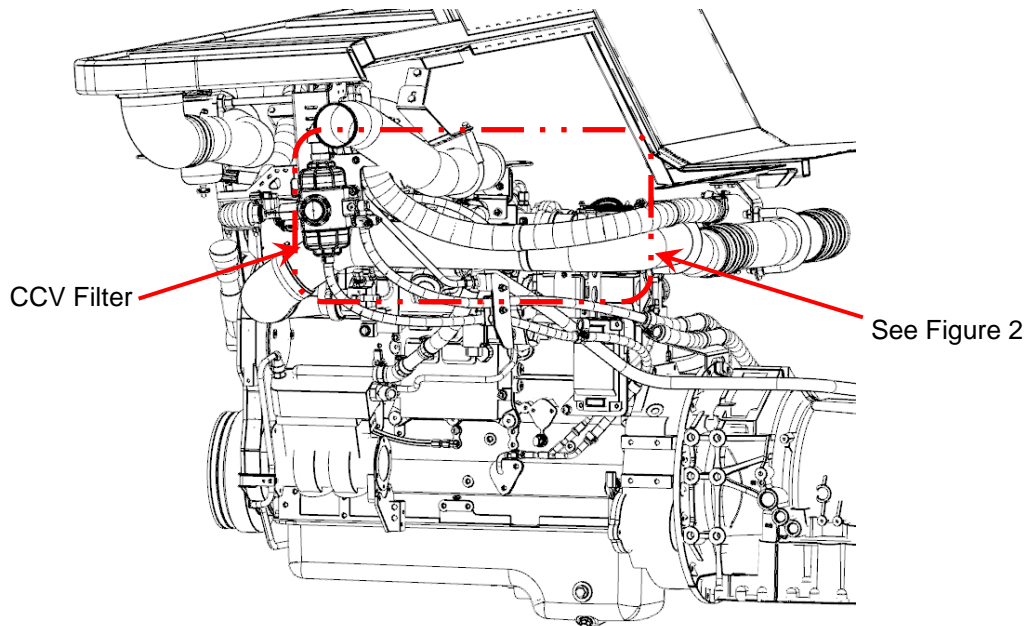
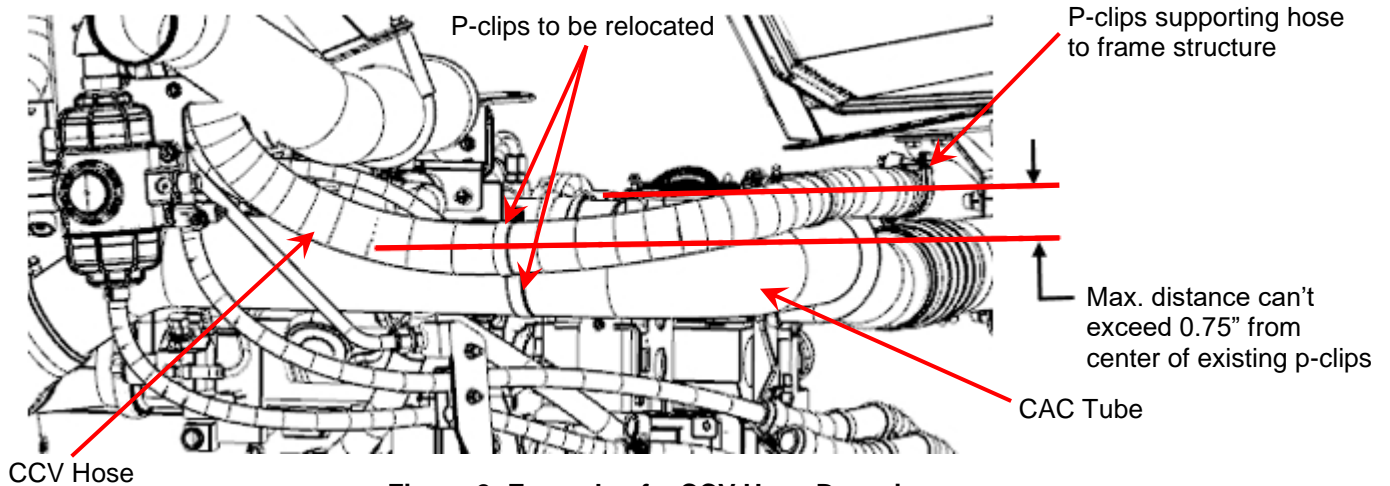
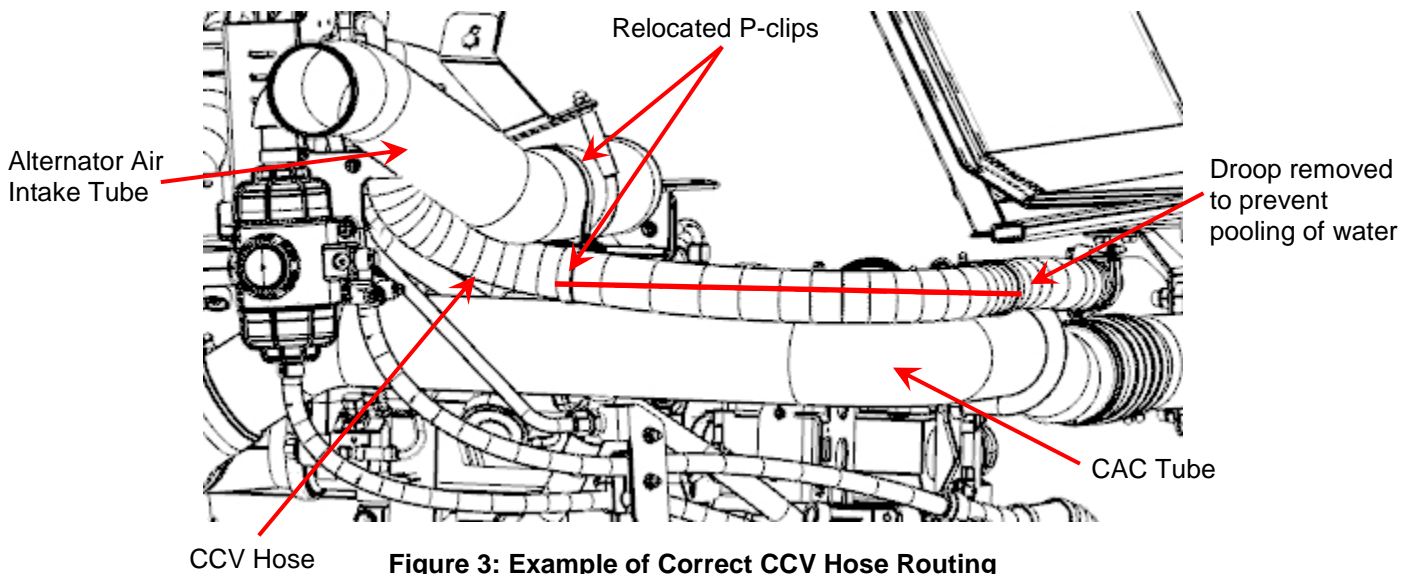

Figure 1: Crankcase Vent Filter Hose Location
Figure 2: Example of a CCV Hose Drooping
Figure 3: Example of Correct CCV Hose Routing
1. Inspect the routing of the crankcase vent (CCV) filter blow-by gas outlet hose, see Figure 1. Ensure the hose is sloping continuously up from engine to CCV filter without any sharp bends or dips and is routed in such a way that liquid will not accumulate. The hose may need to be adjusted by relocating the hose support p-clips. See Figures 2 and 3.
2. If the CCV hose has a droop exceeding $\frac{3}{4}$ inch, as shown in Figure 2, relocate the existing p-clips securing the hose from the CAC tube to the alternator air intake tube. See Figure 3.